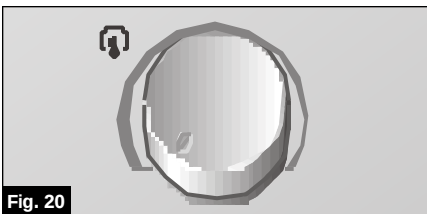

Fig. 20
- Set the thermostat to its minimum temperature setting, **Fig. 20**.